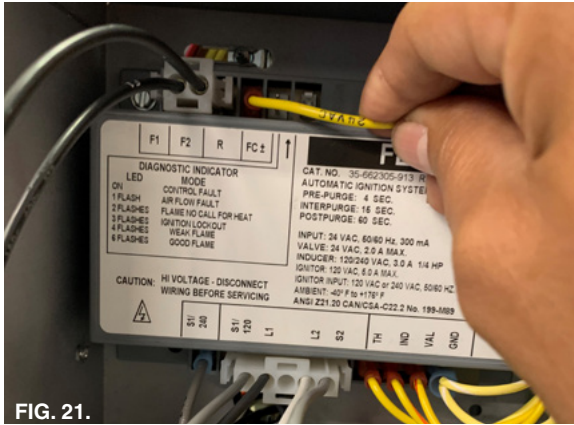

FIG. 21.
17. Connect the 24 VAC plug at the upper right side as shown in Fig. 21.